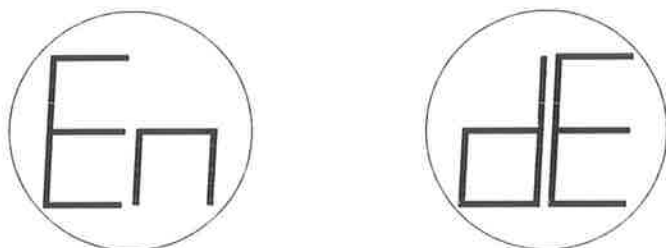

figure 19
- The display will alternate between “En” and “dE” (figure 19), until the magnet is re-applied. Apply and remove the magnet when the desired option appears on the display. “En” stands for Energized and “dE” stands for De-Energized. When this selection has been made, the next option will appear.
- The Energized/De-Energized option for the Alarm relay will be displayed as in figure 19.